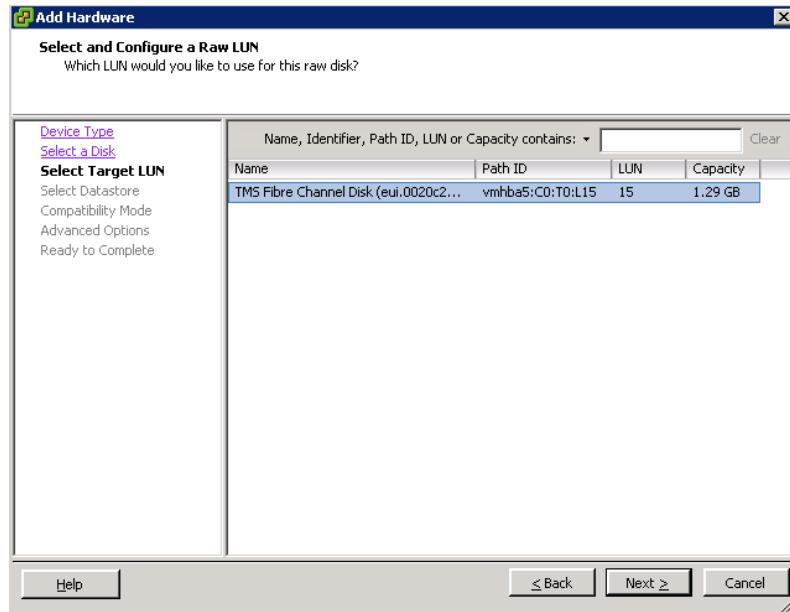

Figure 5-24. Add Hardware—Select Target LUN
9. Select a target LUN. In this example, accept the selected LUN, and then click **Next** (Figure 5-24).